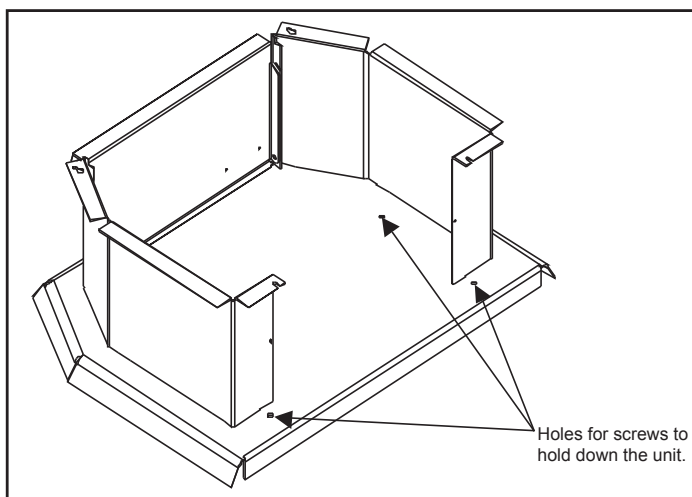

Figure 17: Screw the pedestal down for mobile homes.
- In a Mobile Home installation the unit must be bolted securely to the floor using the holes provided (see Figure 17).